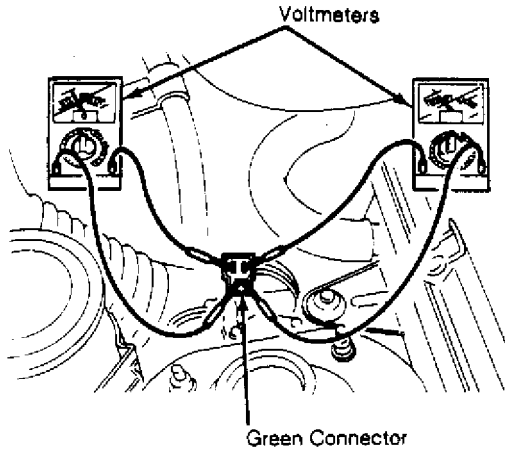

Fig. 9: Voltmeters Connected to Adjust Throttle Sensor
1) Warm engine to operating temperature. Stop engine and disconnect Green connector. Using 2 voltmeters, connect leads to Green connector terminals. See Fig. 9. Turn ignition on and observe voltmeters. Current should flow to 1 of the voltmeters.